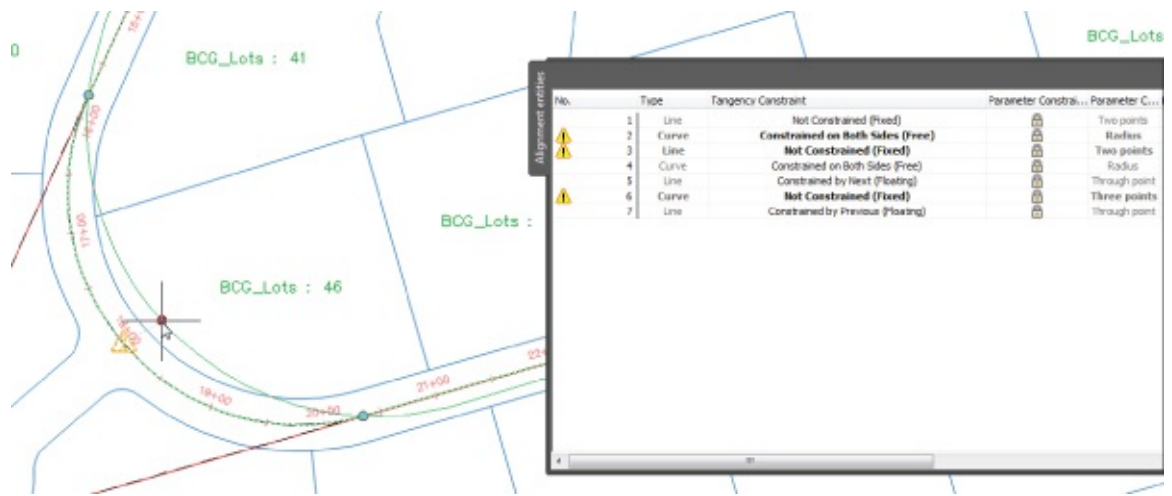

Figure 6.34 Gripping on an alignment with the tangent before the curve set to Constrained By Next (Floating) and the curve set to Not Constrained (Fixed)
6. Grip-edit the curve using the circular grip on the midpoint of the curve and notice how the curve radius increases to account for the change (Figure 6.34). Also notice that the tangents are also changing to account for the change